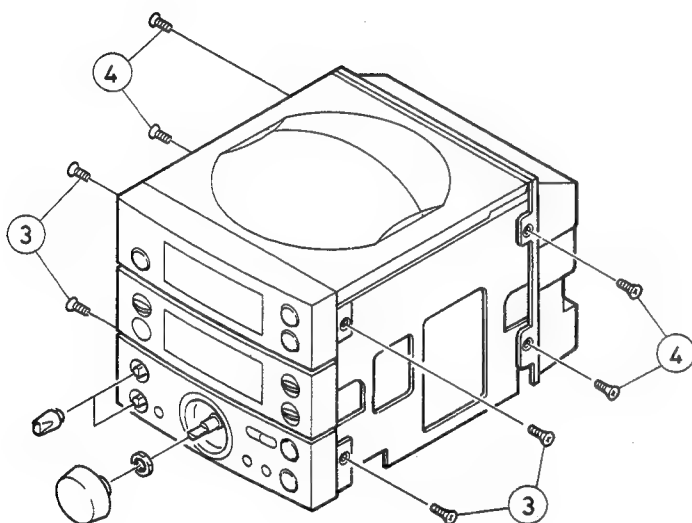
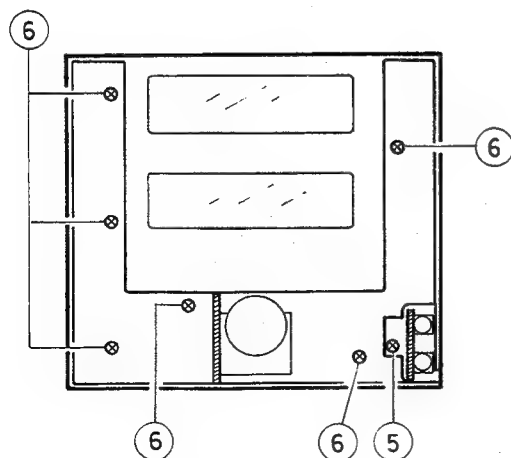

Fig. 7-2
Fig. 7-3
2. Pull out three knobs of the sound volume control and the tone quality controls (treble and bass). (Fig. 7-2)
3. Remove four screws (3) retaining the front panel.
4. Remove four screws (4) retaining the rear panel.
■ P.C. boards attached to front panel (Fig. 7-3)
1. Remove a screw (5) retaining the volume assembly for tone quality control.
3. Remove six screws (6) retaining the operation board (VMW2312A).
■ Rear panel (Fig. 7-2)